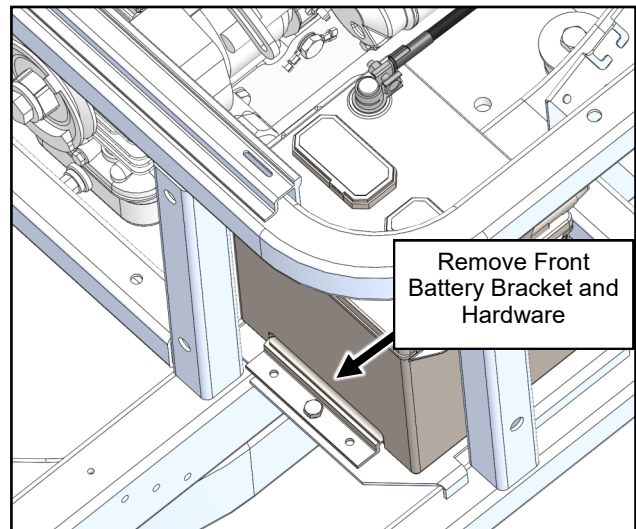

Fig. 1.3 (Remove Battery)
- 1.3 Disconnect both wires from the battery, negative then positive. Remove the front battery bracket and then remove the factory battery and set a side. See Figure 1.3.